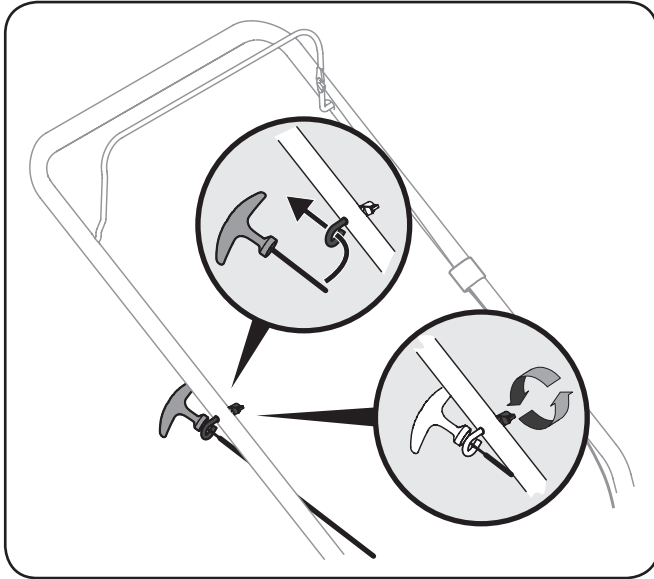

Figure 3-3
3. Loop the rope through the eye bolt. See Figure 3-3.